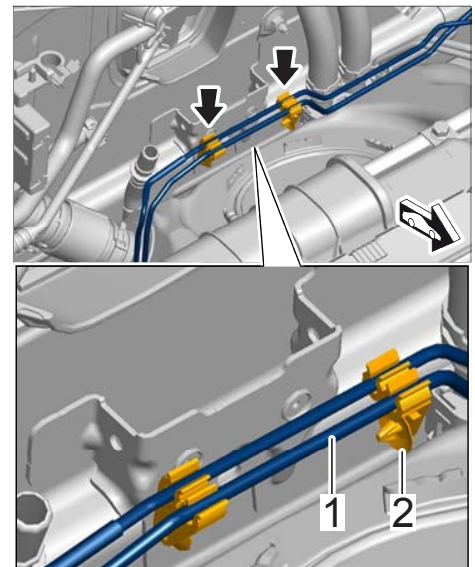

Figure 49
- 8.2 Clip in brake lines ⇒ *Figure 49-1-* using the retaining clips ⇒ *Figure 49-2-* at the bodyshell mounting ⇒ *Figure 49-arrows-*.